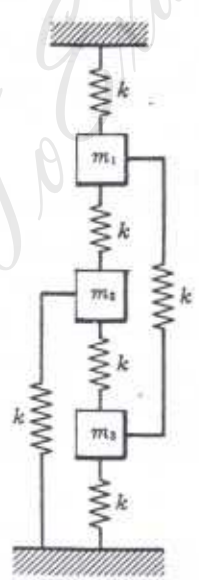

FIG. 4
7. a) A three-degree-of-freedom spring-mass system is shown in Fig. 4, where all the masses are equal to m . Draw the free-body force diagrams for the three masses and calculate the flexibility influence coefficients from these diagrams. (14)